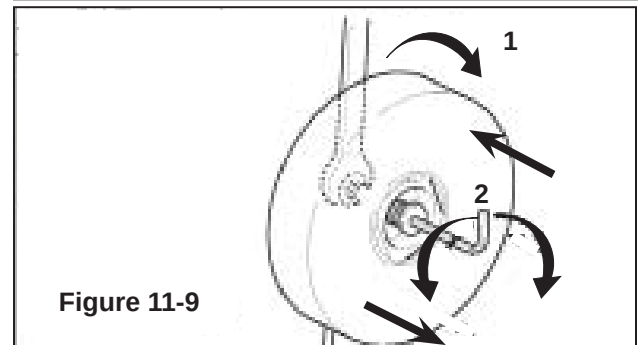

Figure 11-9
Check the centering of the tape on the rollers of the taping unit. If necessary unscrew the nut 1 and adjust the screw (2) (**Figure 11-9**).